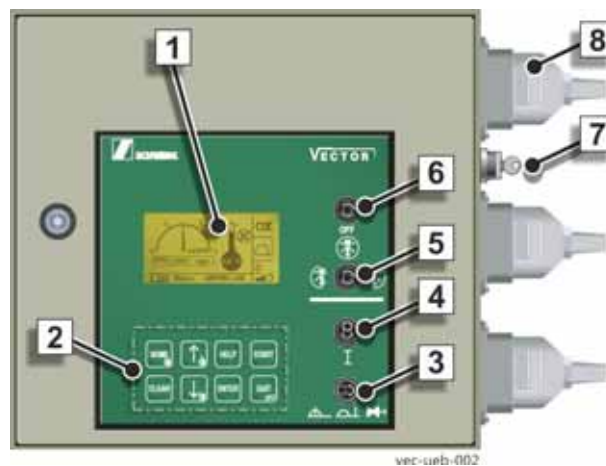

Fig. 356 Example: Switch cabinet of a truck-mounted concrete pump
- Safety fuses in the switch cabinet or control cabinet of the concrete pump, see **(Fig. 356)** and **(Fig. 357)**